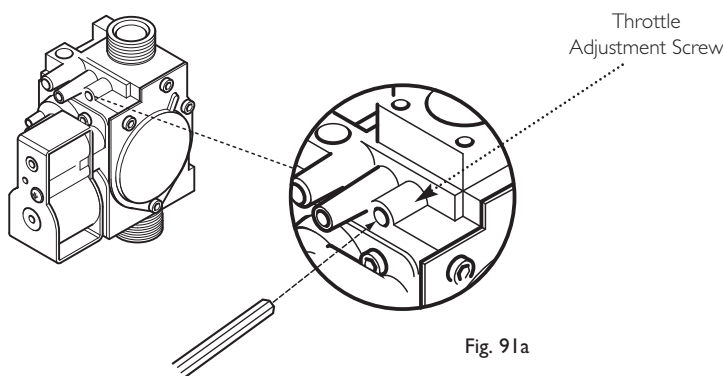

Fig. 91a
**NOTE:** To assist the boiler to light prior to final setting, use a suitable hexagon key to wind out the Throttle Adjustment Screw until it is flush with the valve body, then turn the screw 4 full turns clockwise (Fig. 91a). If the boiler will not light, or the correct CO2 cannot be achieved contact the 'heateam' technical helpline.